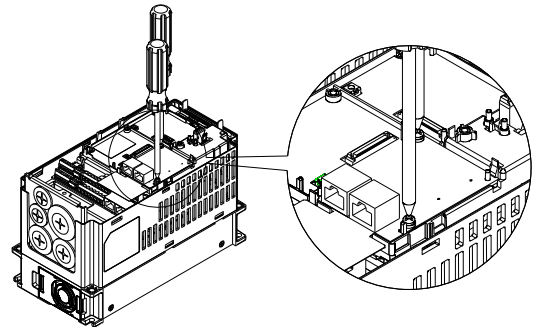

Figure 3
- Crew up at torque 6~8 kg-cm [5.2~6.9 lb-in.] [0.59~0.78 Nm] after the PCB is clipped with the holes (see Figure3) .